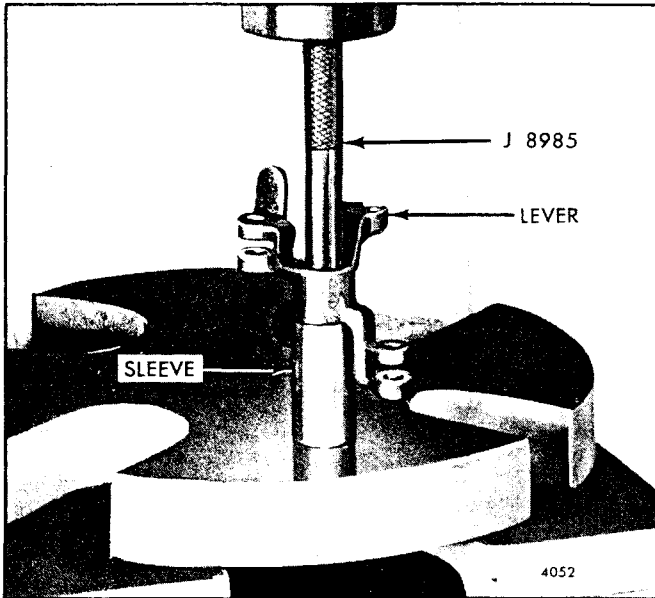

Fig. 8 - Removing or Installing Control Link Lever Bearings
3. If the bearings require replacement, support the control link lever on a sleeve placed on the bed of an arbor press. Then press the bearings out of the lever with tool J 8985 (Fig. 8).
11. Support the control link lever on a steel spacer as shown in Fig. 8. Start one bearing, number side up, in the lever. Insert the pilot end of installer J 8985 in the bearing and press the bearing in the lever. Reverse the lever and install the second bearing in the same manner.